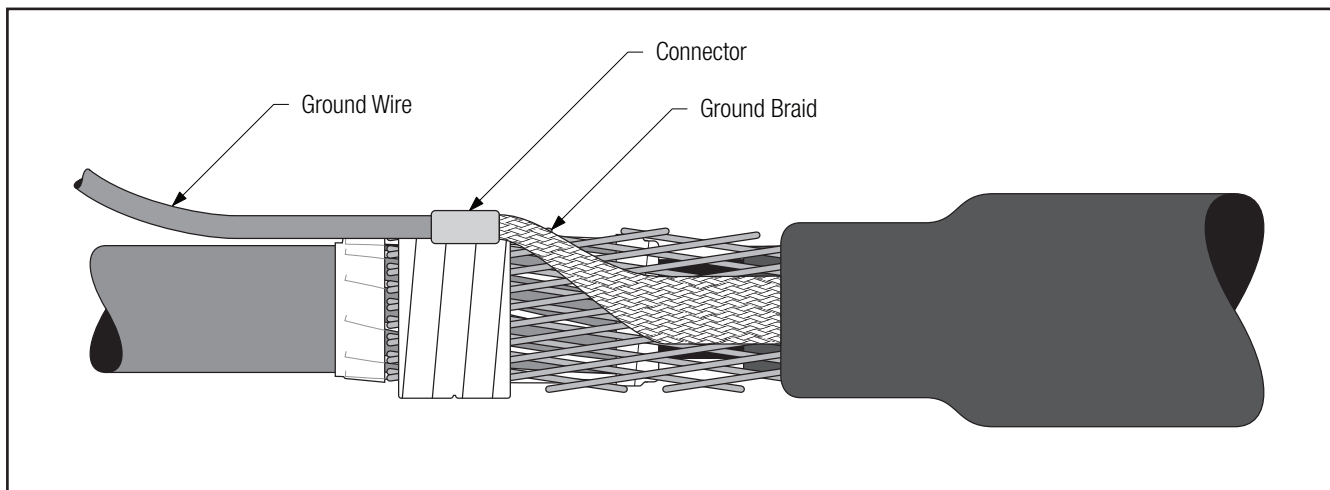

Figure 22
- 6.1 Connect a ground wire to the pre-installed ground braid on the integrated splice using an appropriate connector. Keep connector profile as low as possible. For C-tap or H-tap connectors, position flat against the cable. Crimp connector following the connector manufacturer's recommendations (*Figure 22*).